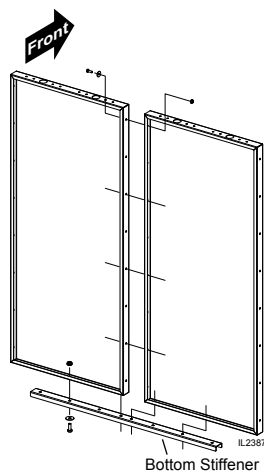

Figure 1
1. Align the two rear panels (Fig 1) and secure with a bolt, washer and nut (8 places).